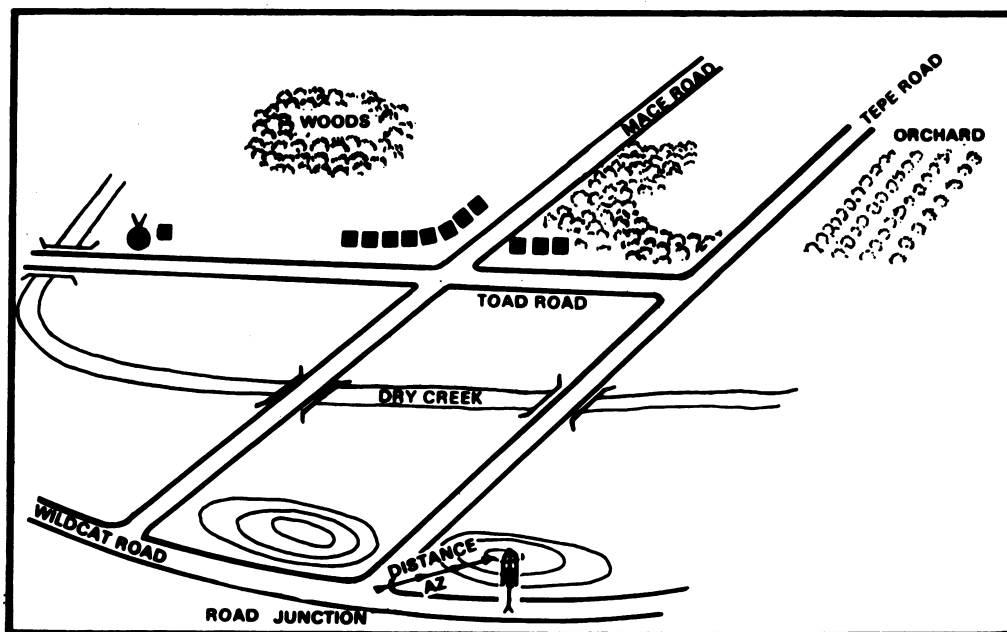

Figure 2
(2) Show the location of your firing position by drawing an arrow from a nearby recognizable terrain feature to the weapon symbol. Label the recognizable terrain feature and add the distance and azimuth from the terrain feature to your firing position (fig. 2).